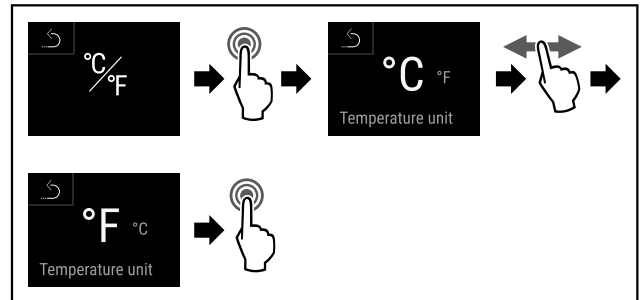

Fig. 108
- ▶ Complete steps (see Fig. 108) .